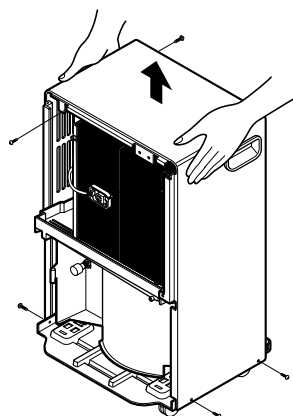

Figure 12
2. Remove 1 screws that fasten Control box. (See Figure 12)
4. Lift the Cabinet from the base. (See Figure 12)